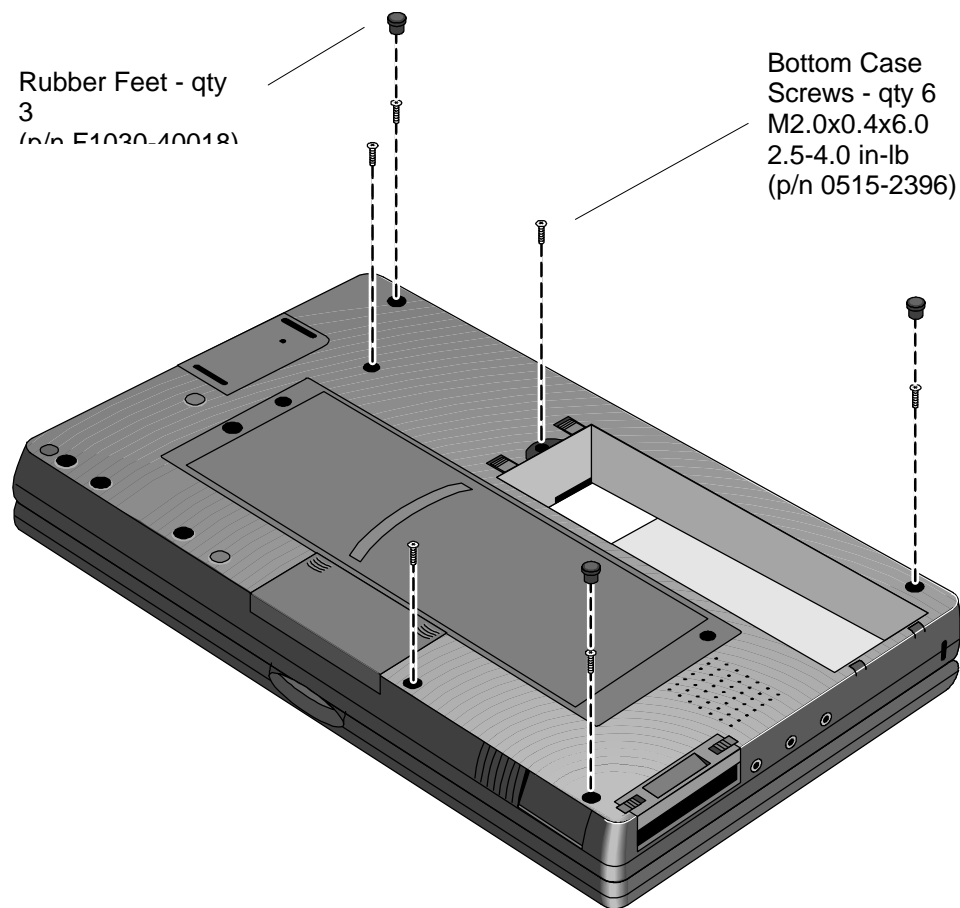

Figure 32 - Bottom Case Screws and Rubber Feet
4. Remove the three rubber feet and six screws from the bottom case. See Figure 32.